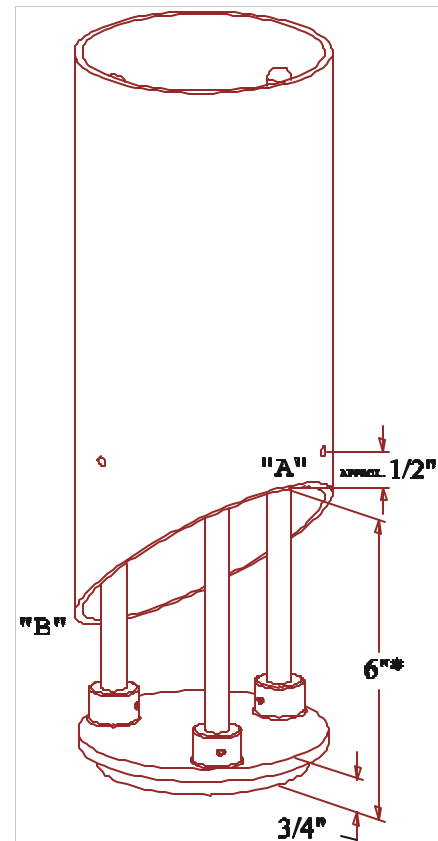

Figure 1
2. Using a # 11 Drill (0.191") - Drill a hole into the fill tube about 1/2" above and 1" to 1 1/16" over from point "A" (see figures 1 and 2). Keep in mind that the **POMECO Tank Bottom Protector** must rest on the bottom of the tank.